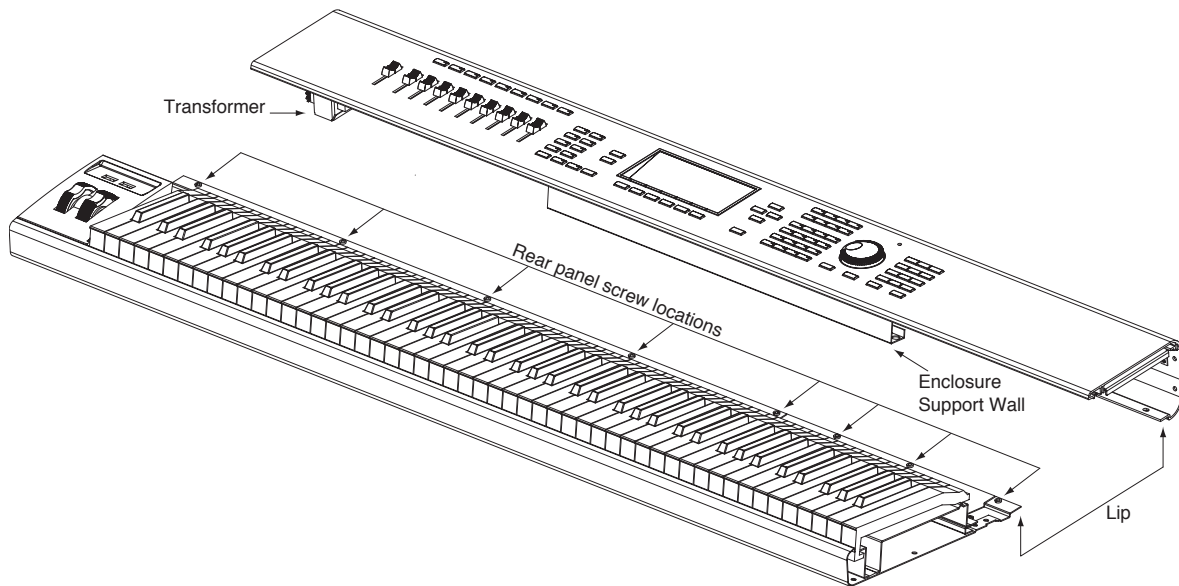

Figure 3-4 **Top and bottom enclosures**
7. Refer to Figure 3-4. The bottom edge of the rear panel and back edge of the bottom enclosure connect to form a lip. The rear panel screws secure the lip.
2. Move the top enclosure so that the bottom edge of the rear panel is positioned under the bottom enclosure edge. See Figure 3-4 on page 3-4.